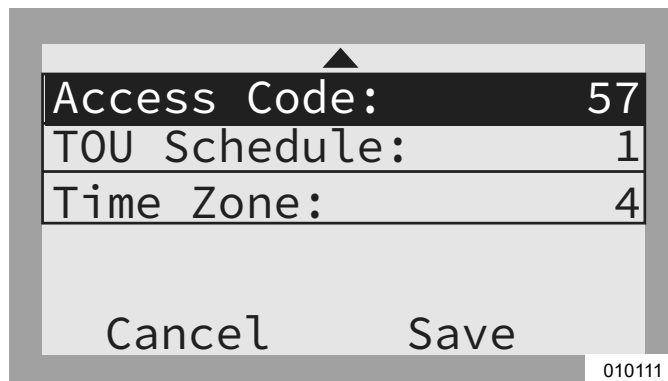

Figure 6-16. Configuring TOU Schedule (3 of 4)
3. See Figure 6-16. Use the up and down arrows to highlight Access Code and press the center button to select.